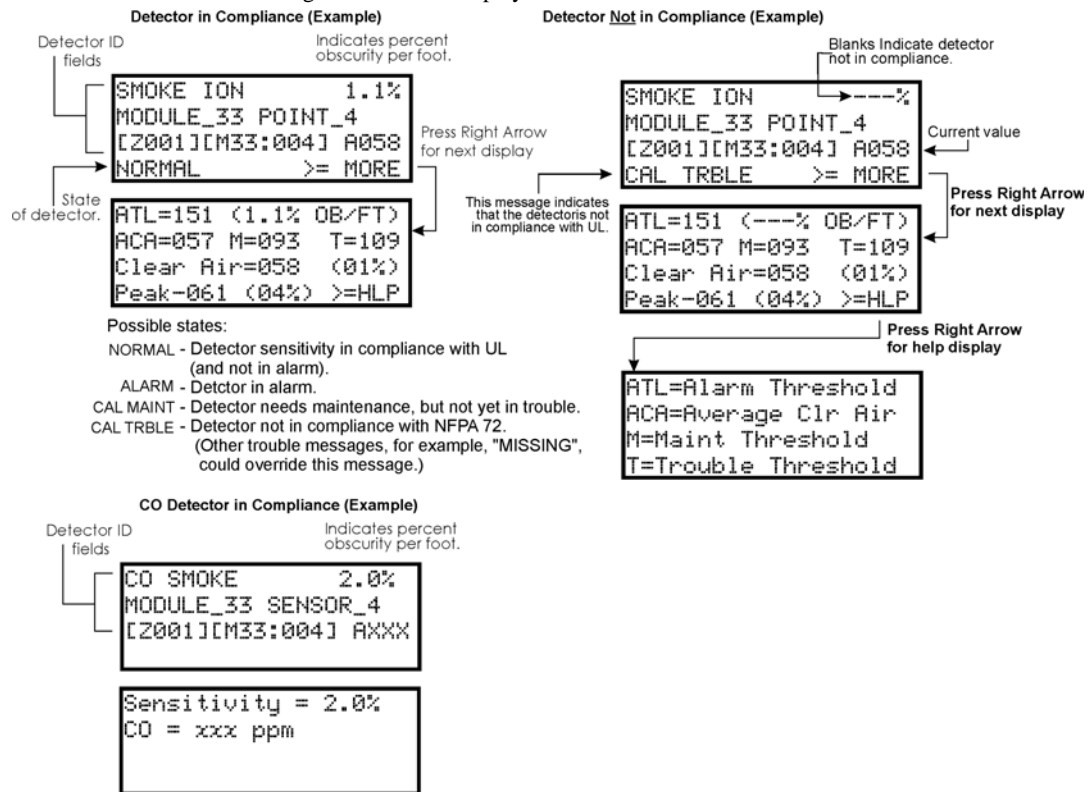

Figure 10.95 Checking Detector Sensitivity Compliance
- A screen similar to those shown in Figure 10.95 will display.